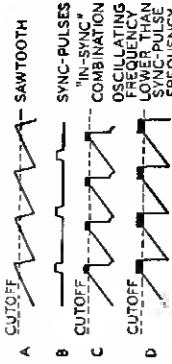

Fig. 71
are also applied to the grid of  $V_1$ . The waveforms shown in Fig. 71 illustrate the sawtooth and sync pulses (A and B) and their proper "in-sync" combination (C). The sync pulse occurs partly during the portion of the sawtooth voltage in which the triode  $V_1$  draws current. Any shift in sync pulse as it is superimposed
For example, waveform D in Fig. 71 illustrates a condition in which the sawtooth voltage is advanced in phase with respect to the sync-pulses. The widening of the pulse which occurs at the corner of the sawtooth waveform allows the control tube to conduct more current and, consequently, allows the capacitor  $C_1$  to charge to a higher voltage. This increased reference voltage also appears in the grid circuit of  $V_2$  and makes the grid more positive. The increased grid voltage then speeds up the frequency of oscillations until proper synchronization results.